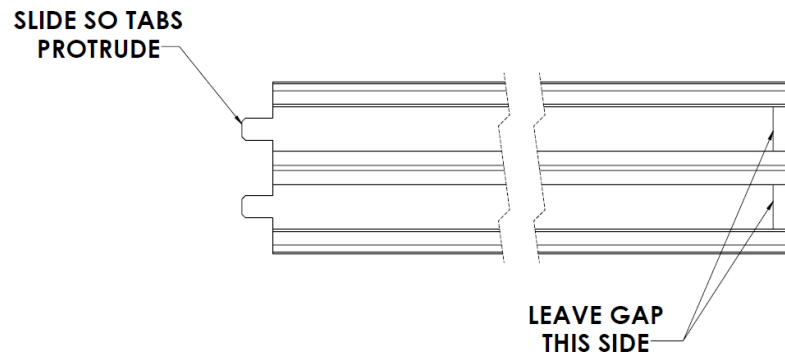

Figure 312: ***Slide Metal Strips 1/2" Out of Plastic Insulator***
d. Slide the metal strips inside the TransStrip back so the male terminal tabs protrude from the plastic insulator (Figure 312).